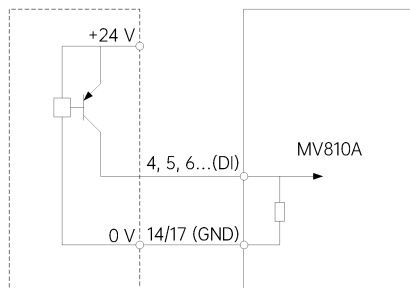

Figure 2-7 Wiring when using the external power supply and the PNP type external controller
- ③ Wiring when the external power supply is used and the external controller adopts the PNP common emitter output, as shown in Figure 2-7.